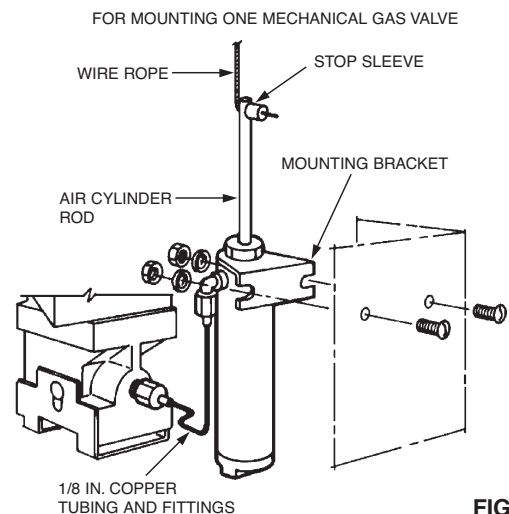

FIGURE 58
4. Locate air cylinder and bracket assembly over the two 7/32 in. (.6 cm) holes on right side of the enclosure. Assemble with screws, lockwashers, and nuts. Wrench tighten. See Figure 58. Air cylinder(s) can also be mounted in the inverted position, allowing for direct exit out the knockout(s) in the bottom of the enclosure. See Figure 59.
6. Install the necessary 1/8 in. copper tubing and fittings for each air cylinder to the accessories piping arrangement on the regulated release mechanism. See Figures 58 and 60.
9. Beginning at the regulated release assembly, thread the end of the wire rope through hole provided in air cylinder rod. See Figure 58.
12. With the end of wire rope already threaded through hole in air cylinder rod, slide stop sleeve (Part No. 26317) onto wire rope and leave loose. Do not crimp stop sleeve at this time. See Figure 58.
14. Raise air cylinder rod "UP" to its maximum extended position. See Figure 58.
16. Slide stop sleeve against air cylinder rod, make certain all slack is removed from wire, and crimp stop sleeve. See Figure 58.